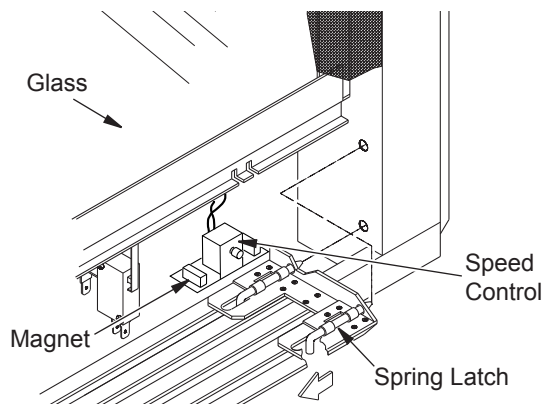

Figure 2 - Blower Speed Control Location
1. Place speed control switch assembly on the bottom of the inside of the firebox (see Figure 2). The assembly is equipped with magnets on the left and right to properly anchor it to the firebox.